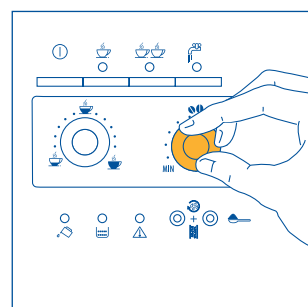
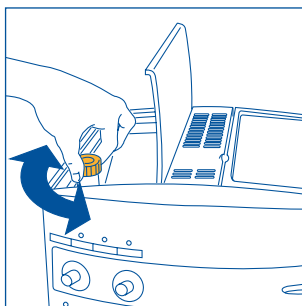

Fig.7
Fig. 17
- 2) Adjust the coffee flavor dial (Fig. 7) to set the desired taste of the coffee. Turning the knob clockwise increases the quantity of coffee beans that the machine will grind, and thus makes the taste of the coffee stronger. When using the machine for the first time, the correct position of the knob can be found by trial and error. Make sure not to turn it too far clockwise, otherwise the coffee will be delivered too slowly (in drips), in particular when preparing two cups of coffee.
NOTE 1: If the coffee is delivered a drop at a time or not at all, turn the grinding coarseness regulator (fig. 17) one click clockwise (see section 6). Turn a click at a time until the coffee is delivered satisfactorily.
NOTE 2: If the coffee is delivered too fast and is not creamy enough, turn the coffee flavor dial (fig. 7) clockwise. Proceed by trial and error to find the correct position of the dial. Make sure not to turn the dial too far clockwise, otherwise the delivery may become too slow (in drops), in particular when making two cups of coffee. If, after several coffees, the cream is still not satisfactory, also turn the grinding coarseness regulator (Fig. 17) one click counter-clockwise (see section 6).
To resolve this problem, re-set the grinding coarseness by adjusting the regulator (Fig. 17) one click counter-clockwise (as described in chap. 6).
Nonetheless, after having made the first coffees, if delivery is too fast or too slow (in drips), the grinding coarseness regulator can be adjusted (Fig. 17). Turning one click (one number) clockwise achieves faster delivery of the coffee (without drips).